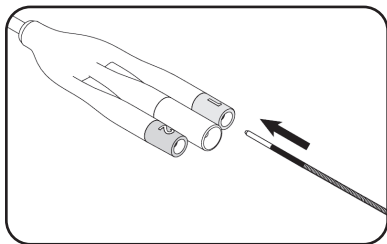

Figure 8. Insert the pin of the PNE lead into the Basic Trial Cable connector labeled “1” or “2”.
2. Connect the lead to the desired connector on the Basic Trial Cable (**Figure 8**).